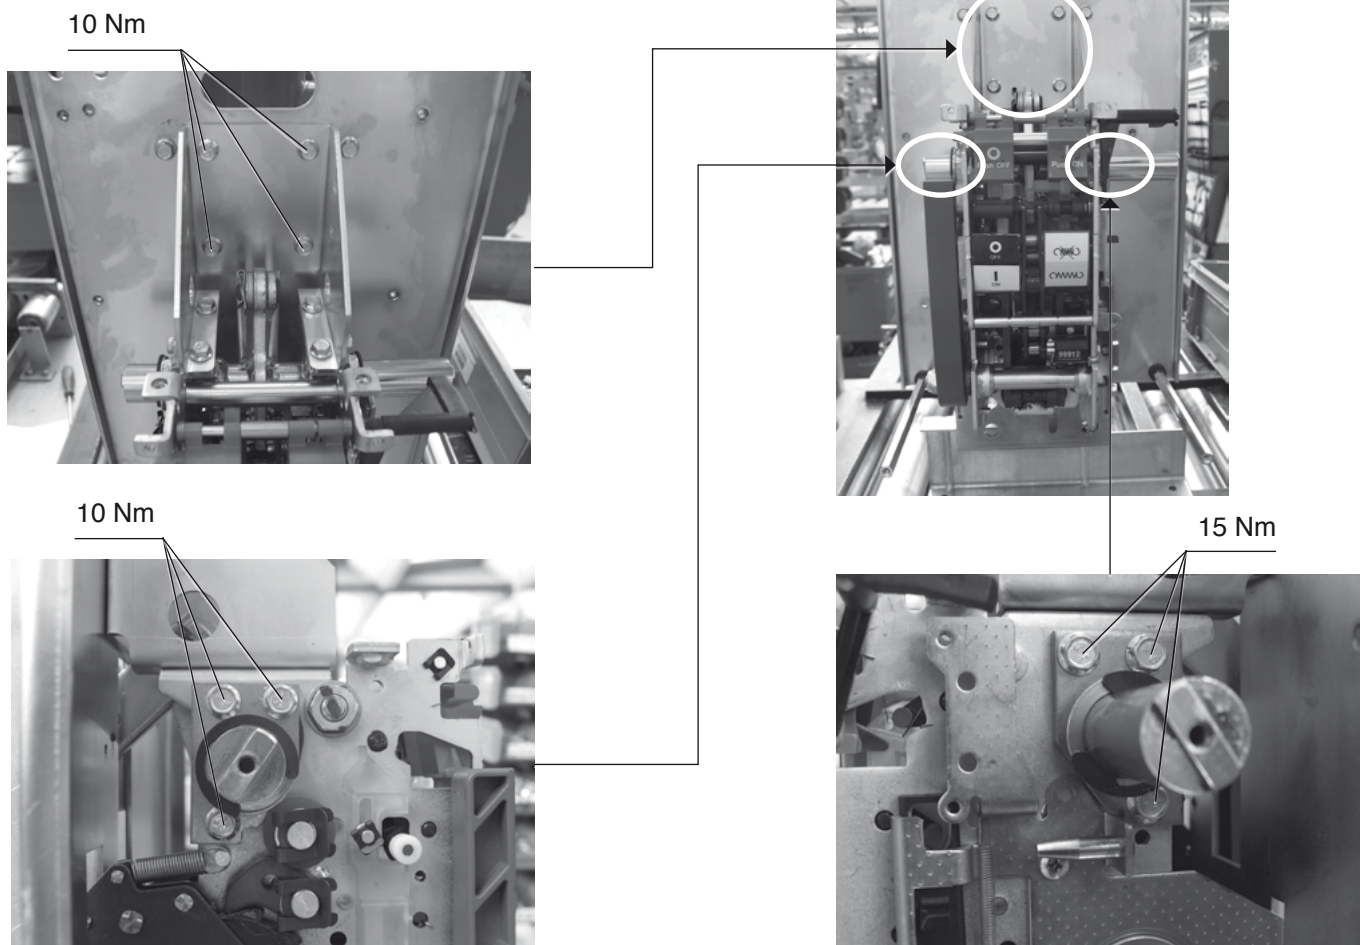

Figure 25
- The screws and nuts are tightened in the factory and correct tightening is indicated by a coloured mark. No further tightening should be required during the operating life of the circuit-breaker. However, if the screws or nuts must be retightened after maintenance work or other, always comply with the values indicated in fig. 25.